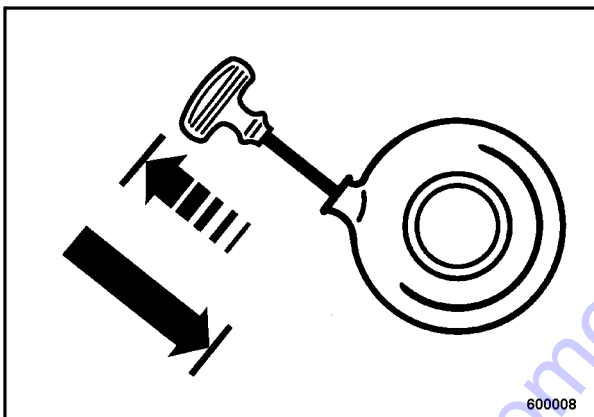

Fig. 4
- Pull the rope with the starter handle (Fig. 4) until a resistance can be felt.